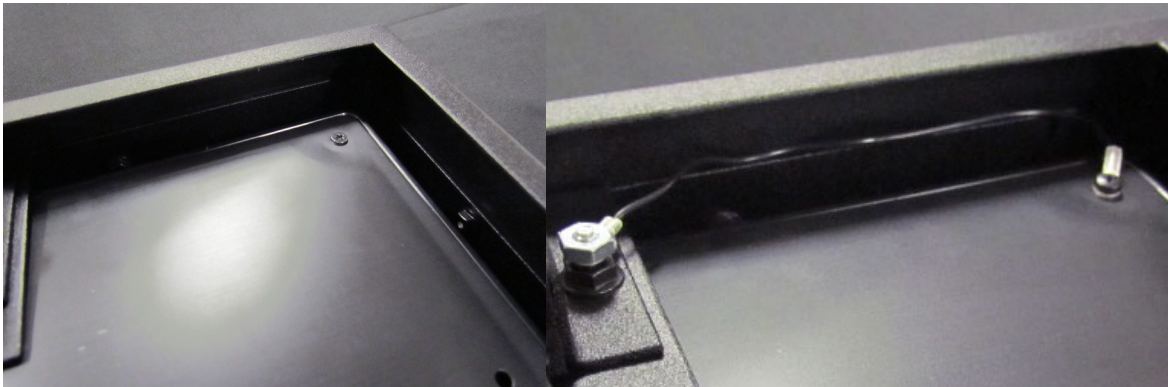

Figure 8c
- 7.2.3 Using a #2 Philips screwdriver, remove the factory screw in the top right corner of the monitor chassis. Secure the other end of the grounding wire to the monitor using the provided M3x10 pan head screw, as shown in figure 8c. The overlay is now grounded to the monitor chassis.